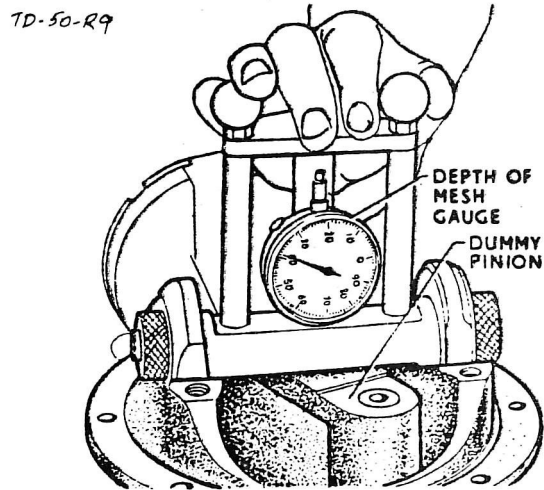

Fig. 9. MEASURING PINION MESH
16. To obtain the actual thickness of shim required it is necessary to add .10 in. (2.54 mm.) to the reading given by the gauge, i.e. a dial reading of 39 (as shown in Fig. 9) would require a shim of .139 in.